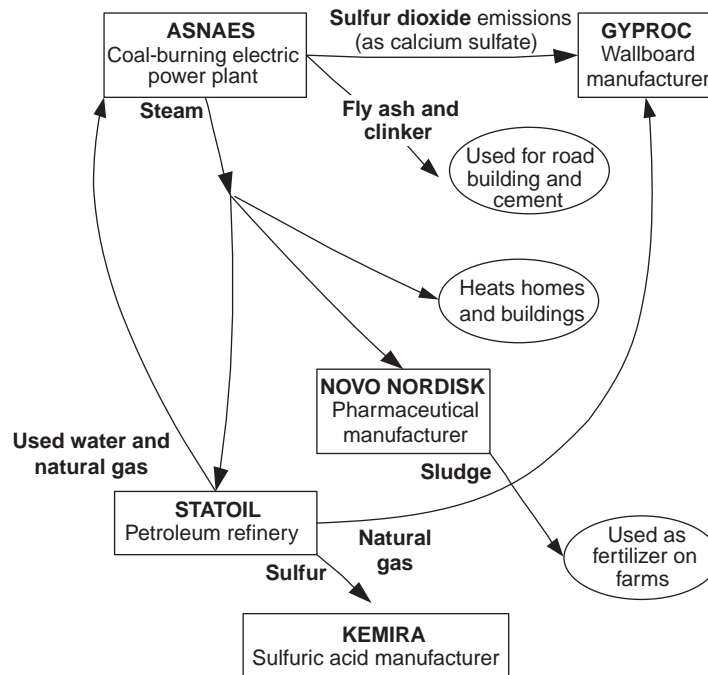

Figure 2.2
Pollution prevention is tremendously attractive, but we cannot avoid all waste and pollution. Moreover, P² alone cannot accomplish other critical environmental aims such as preserving species biodiversity or saving land. What if we could, legitimately redefine the word, waste? Kalundborg, a city in Denmark, is a model of treating wastes as useful by-products in a process called *industrial symbiosis*: by-products, whether material, energy, or water are sold or given to nearby facilities, which use or reuse them (Figure 2.2).
3. Review Figure 2.2. Then consider industrial, municipal, or other facilities in your locale. (a) What is one possibility that exists for industrial symbiosis? (b) What factors – physical location, financial, liability, public policy – could favor such symbiosis? (c) How could waste materials produced or collected by municipal operations (recyclables, sewage) fit into the symbiosis? d. How about local agricultural wastes?